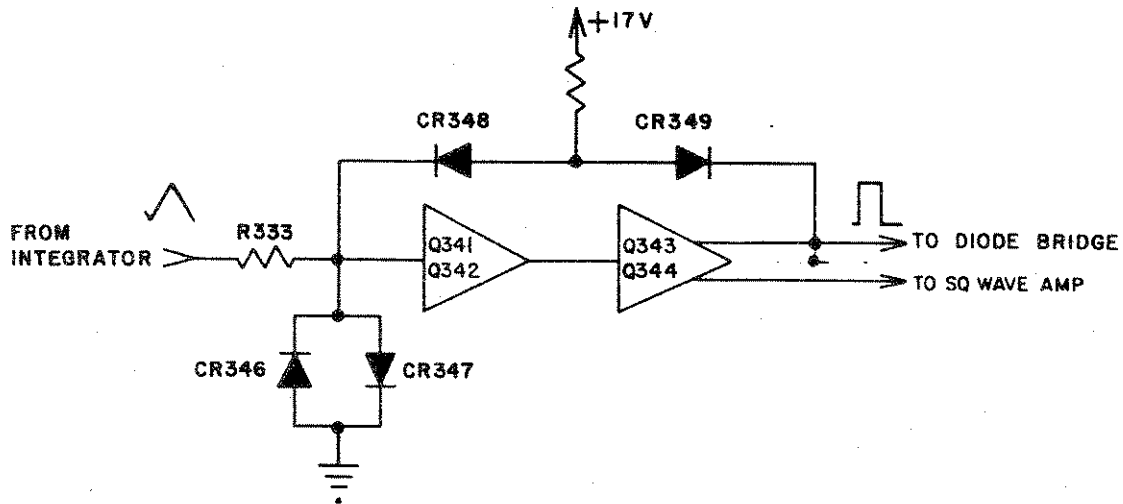

Figure 6. Square Wave Generator
4.4 SQUARE WAVE GENERATOR (See Figure 6)